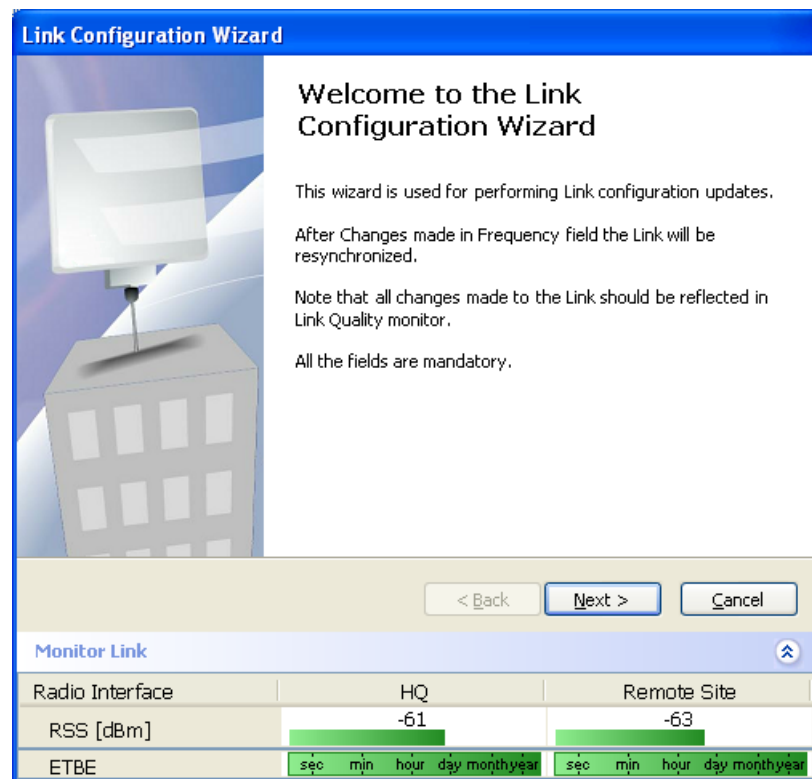

Figure 4-1. Configuration Link Wizard
2. The Configuration wizard opens (Figure 4-1).